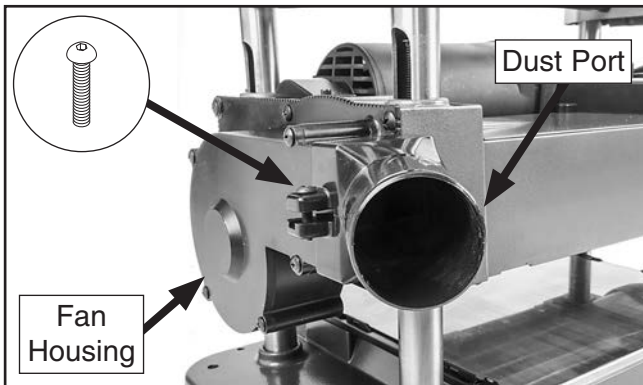

Figure 10. Dust port installed on fan housing.
- Slide dust port onto fan housing (see **Figure 10**) and tighten pre-installed button head cap screw with 4mm hex wrench.